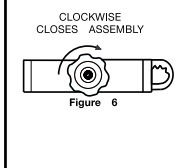

Figure 6
4. Tighten ratchet band while on head by turning knob clockwise as shown in Figure 6. Tighten until comfortable fit is obtained.